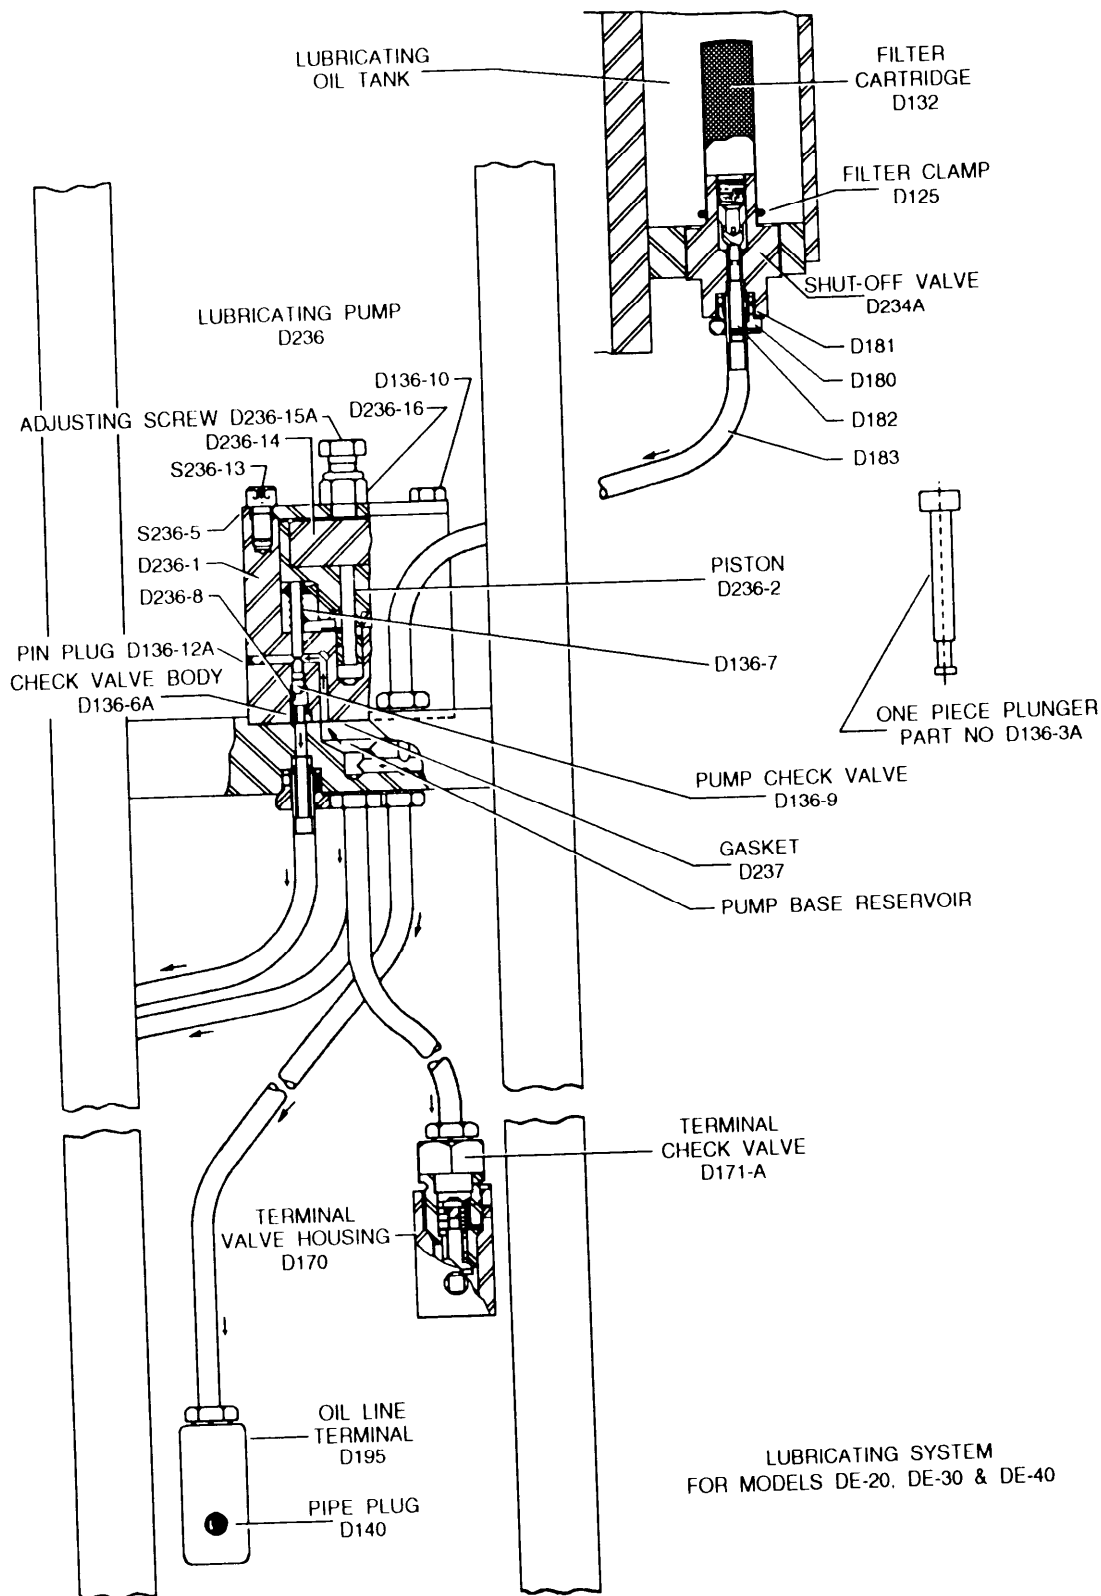

Figure 12-63.-Lubrication system.
**LUBRICATION SYSTEM.**— Oil drains are fed by gravity from the lubrication tank (fig. 12-63) through the wire mesh filter and in-line shut-off valve down the inlet line to the reservoir in the pump baseplate. From the reservoir oil feeds through passages in the pump to